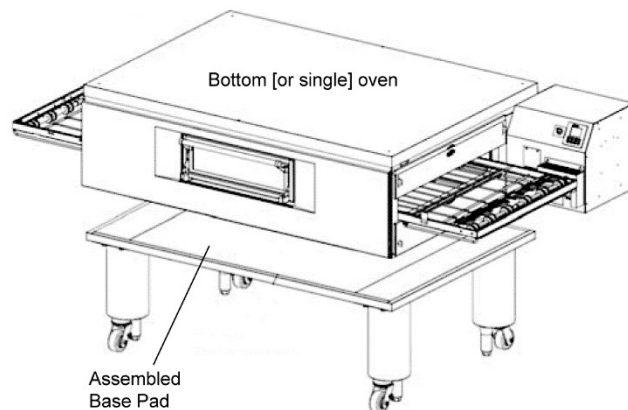

Figure 20. Base Pad Installation
3. Orient the base pad assembly such that the restraining clip is in the rear. Install the lower oven cavity onto the base pad. See Figure 20.